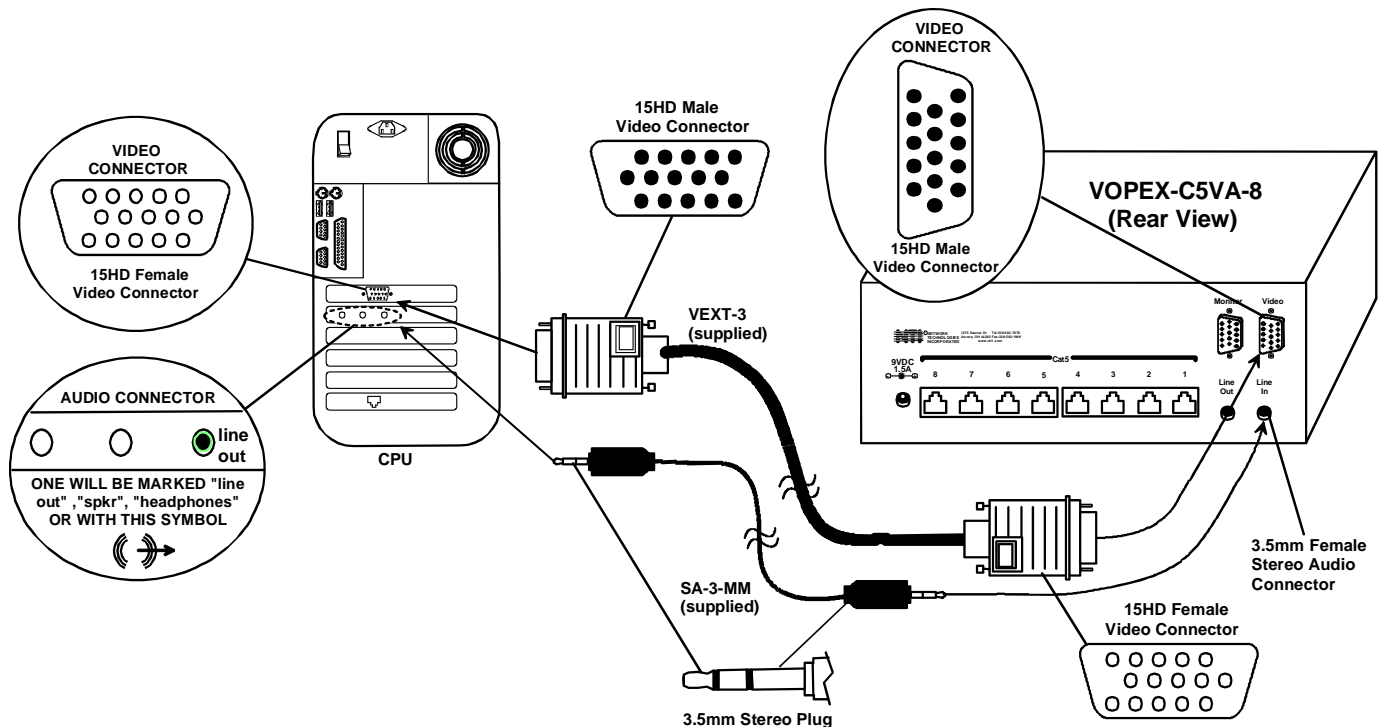

Figure 1- Connecting a VOPEX-C5VA-8 to a CPU
1. Make connections between the VOPEX-C5VA-x and the audio and video source(s). (See Figure 1.)